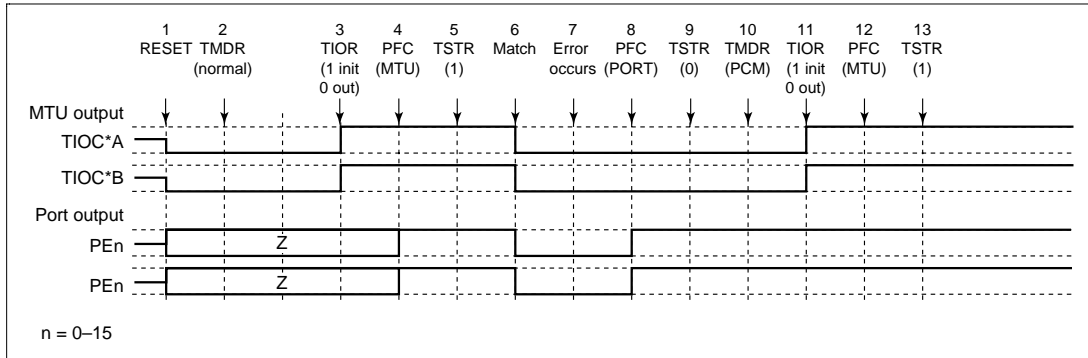

Figure 10.64 Error Occurrence in Normal Mode, Recovery in Phase Counting Mode
(4) Operation when Error Occurs during Normal Mode Operation, and Operation is Restarted in Phase Counting Mode: Figure 10.64 shows an explanatory diagram of the case where an error occurs in normal mode and operation is restarted in phase counting mode after re-setting.